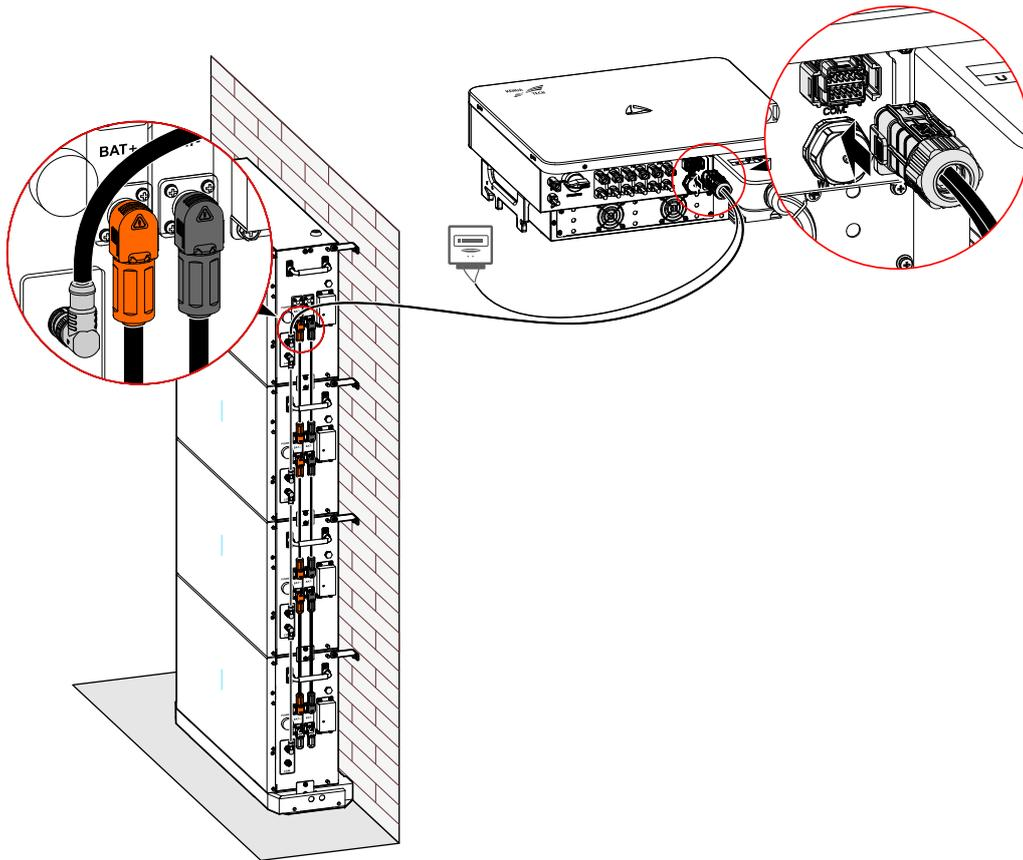

Figure3-33 COM. communication wire connection
Step 2 Insert the COM. connector of the inverter into the "COM" terminal at the bottom of the inverter, insert the COM. connector of the battery into the "COM" terminal at the right side of the battery box, as shown in Figure3-33.